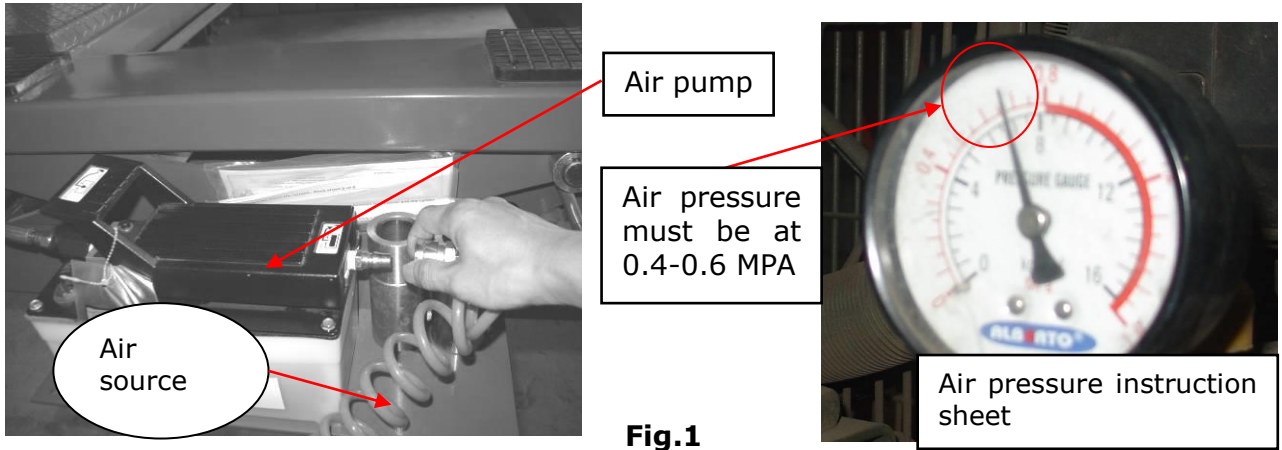

Fig.1
1.1 WEAVER W-7 is connected with the air pump(Fig.1), J6H is connected with hand pump (Fig. 2) .